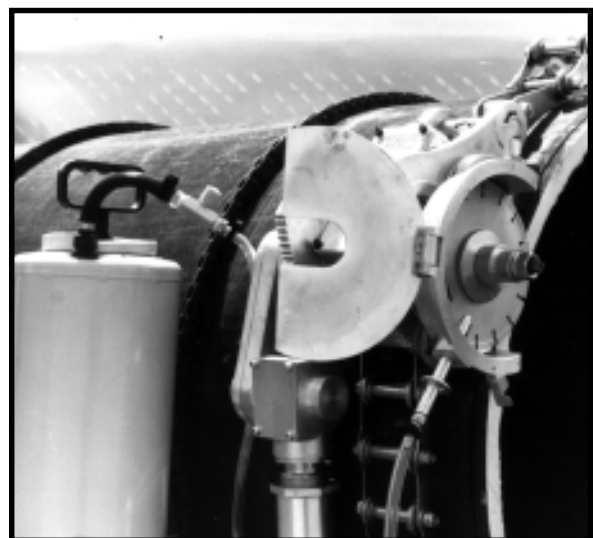

FIGURE 7
10. Attach water supply with fitting supplied and/or special water tank system (optional). Once tank hose is attached, pressurize tank and begin cutting sequence (Figure 7).